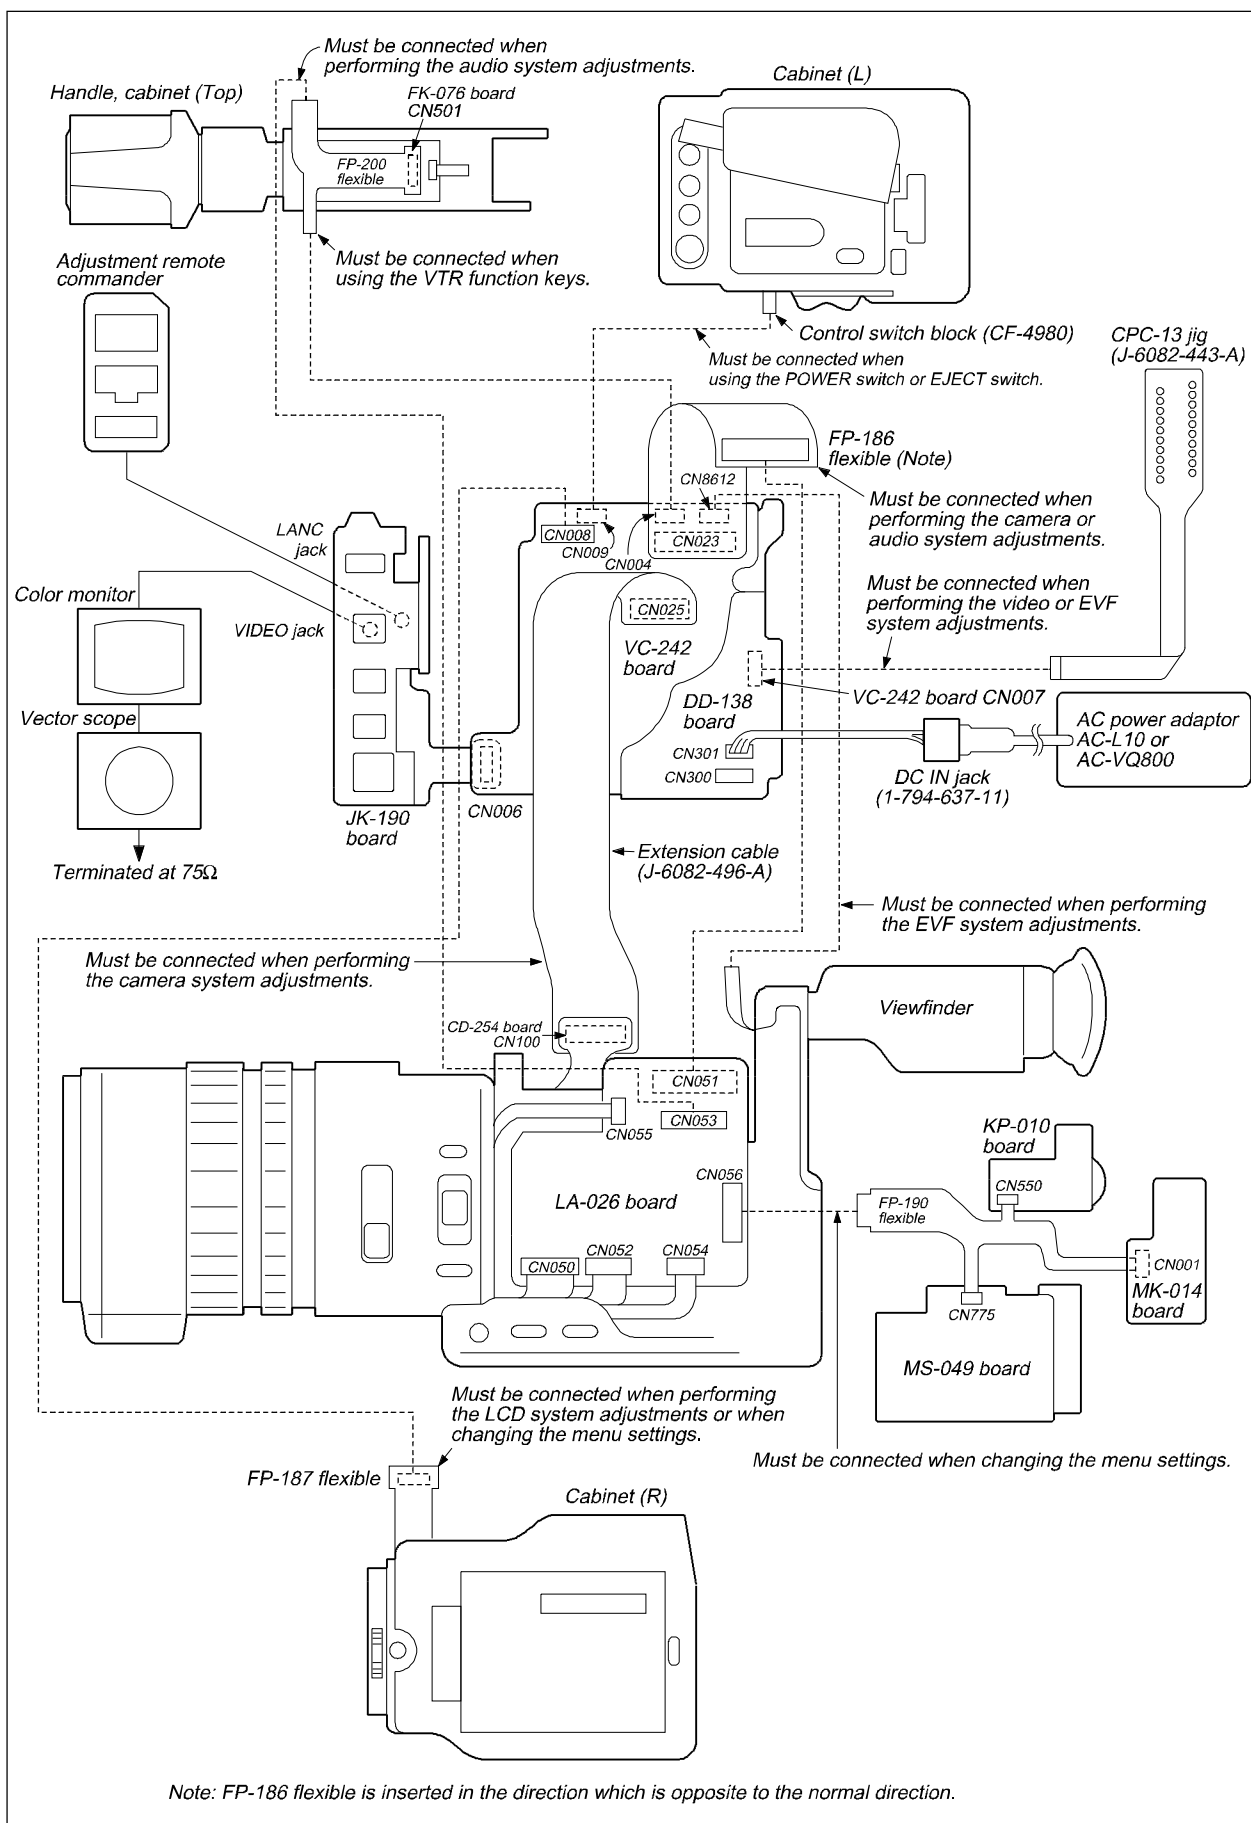

Fig. 5-1-3.
1) Connect the equipment for adjustments according to Fig. 5-1-3.
**Note 3:** As removing the cabinet (R) (removing the VC-242 board CN008) means removing the lithium 3V power supply (CK-093 board BT250), data such as date, time, user-set menus will be lost. After completing adjustments, reset these data. If the cabinet (R) has been removed, the self-diagnosis data, data on history of use (total drum rotation time etc. ) will be lost. Before removing, note down the self-diagnosis data and the data on history use (data of page: 2, address: A2 to AA). (Refer to “SELF-DIAGNOSIS FUNCTION” for the self-diagnosis data, and to “5-4.Service Mode” for the data on the history use.)